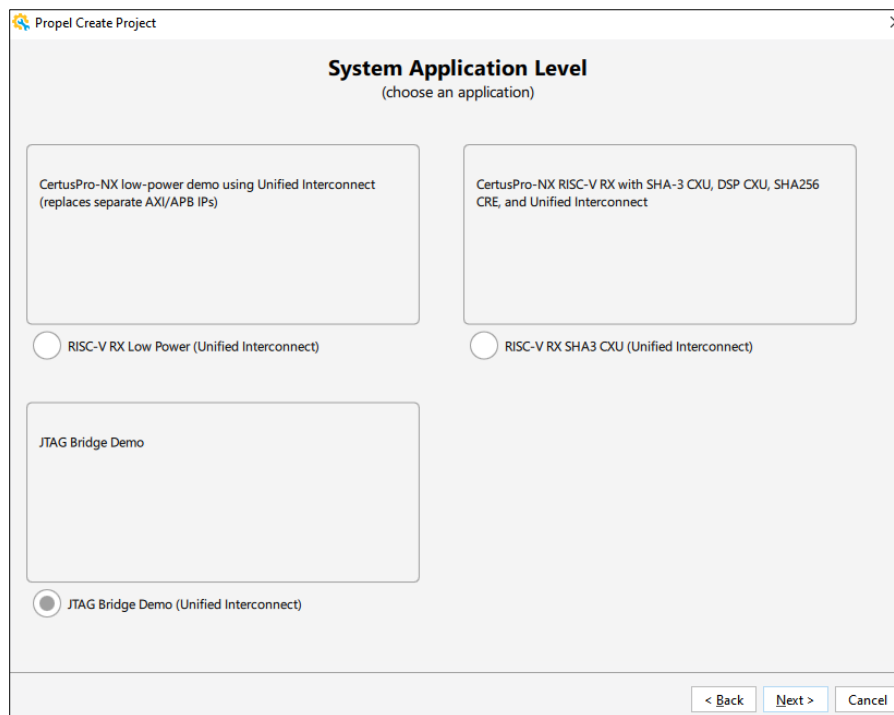

Figure 4.4. Select JTAG Bridge Demo (Unified Interconnect)
4. Select **JTAG Bridge Demo (Unified Interconnect)**, as shown in Figure 4.4.